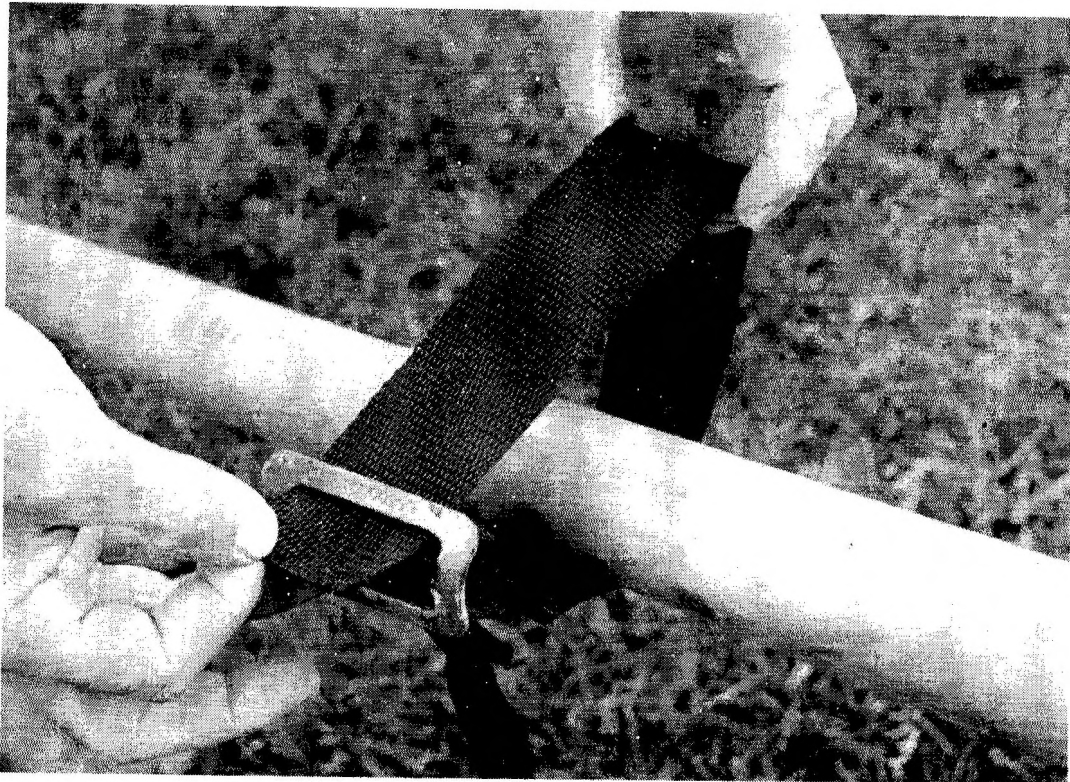
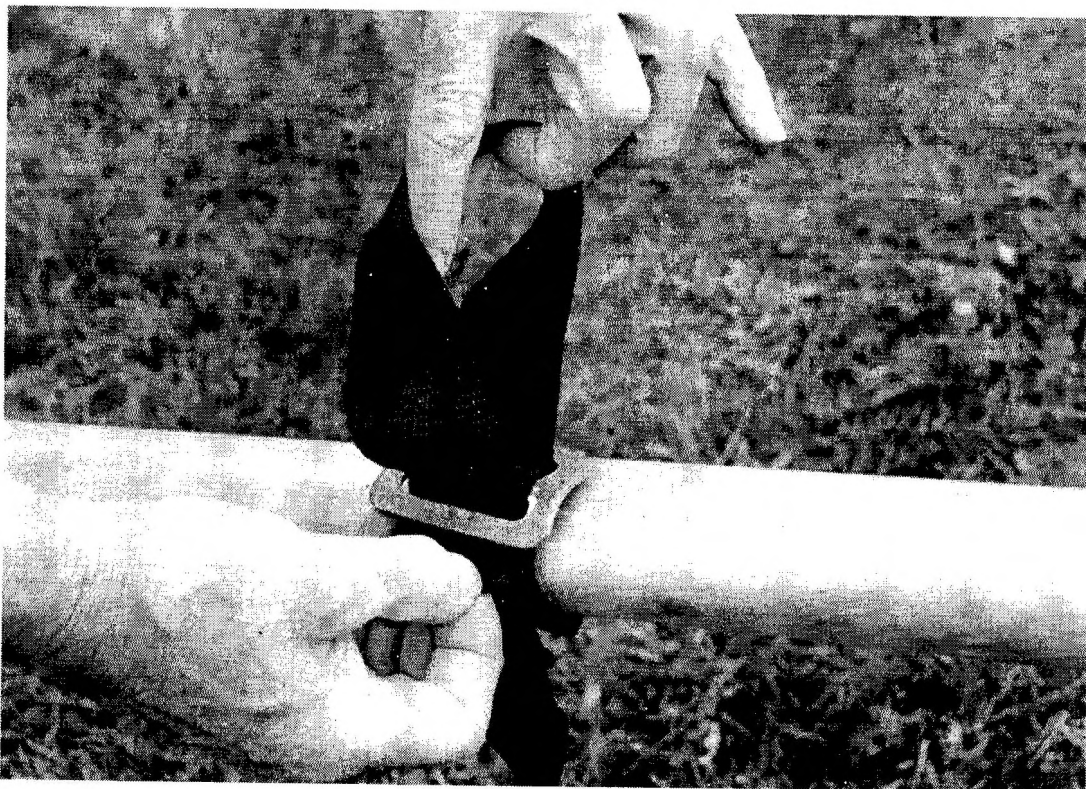
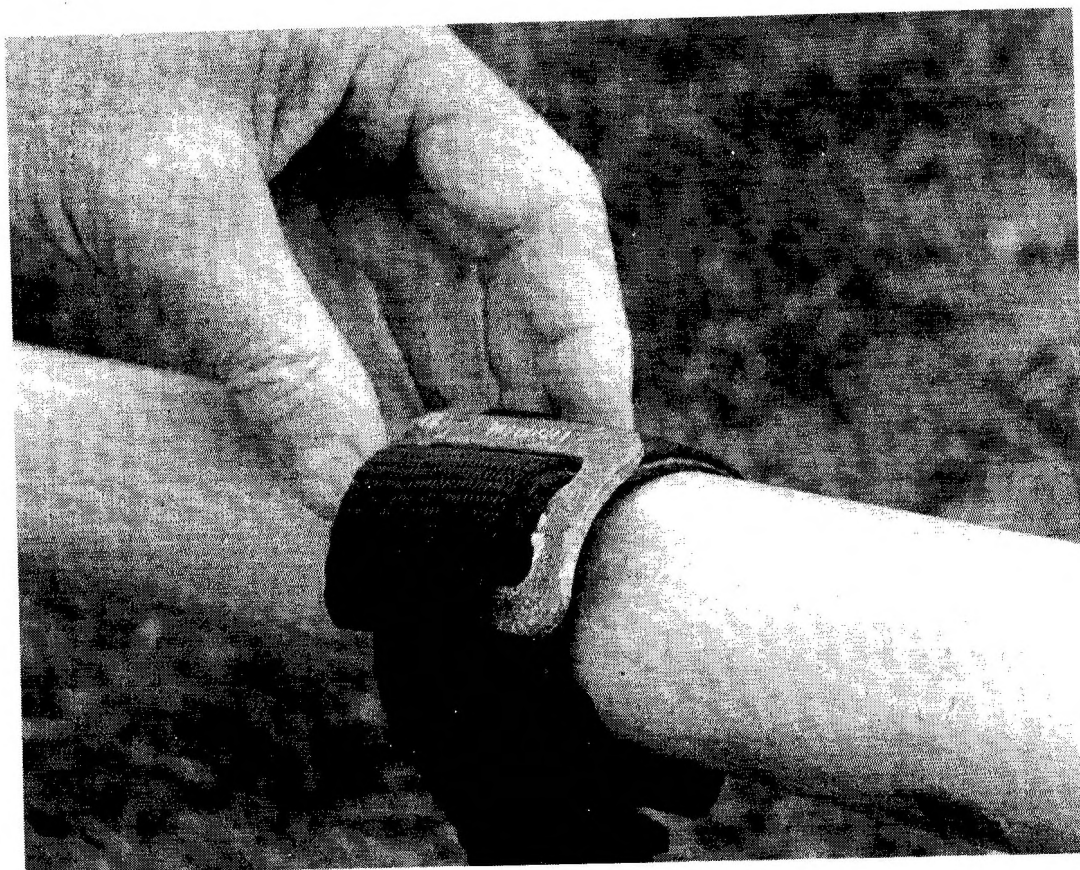
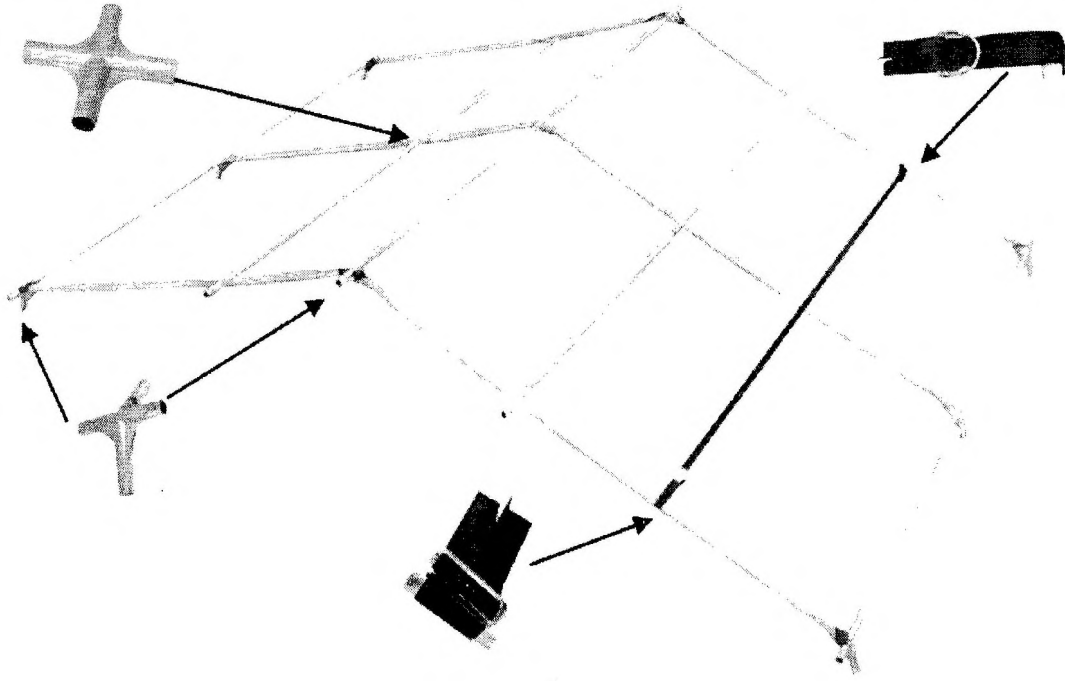

Figure 7: Buckle Connection 1
Figure 8: Buckle Connection 2
Figure 9: Buckle Connection 3
Figure 15: Complete Roof Section (Only half of the frame shown for clarity)
24. Fit strap, adjustable roof restraint (J11/8340-99-339-5439) (qty 2) Fig 7 to 16 and situate the strap as detailed in Fig 15. Ensure the straps are not twisted and the buckles are on the inside of the roof.
25. Fit the buckle end of the strap first passing the webbing through the buckle Fig 7, over and through the other side Fig 8 and back over itself Fig 9. Arrange the buckle to be under the frame so that it does not chafe the PVC covers Fig 16.